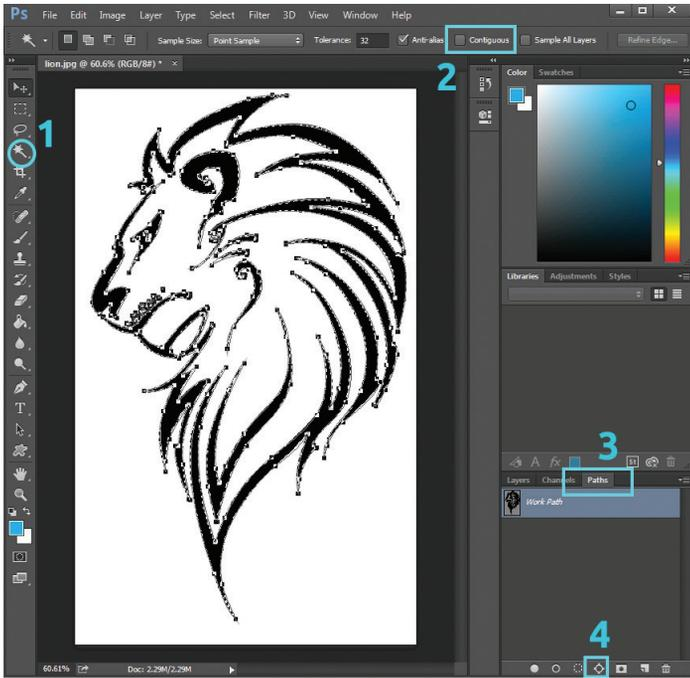

Figure 2
First, locate (or create) an image similar to the one in Figure 2. Open the file with Adobe Photoshop. Refer to Figure 2 where I marked the following steps in numerical order. Using the magic wand tool (1) with the contiguous option unchecked (2), click a point on the image that makes up the shape you want to import into 3ds Max. Once the shape is selected, navigate to the Paths tab (3) and select the Make Work Path from Selection option (4). Next, export the path to an Adobe Illustrator format using the File Menu -> Export -> Paths to Illustrator option.
First, select an image similar to the one displayed in Figure 2. I chose an image of a tiger for this exercise. Insert a plane with length and width segments set to one. Next, apply the Subdivide modifier and navigate to its parameters. Since we are trying to engrave a fairly detailed image into our object we need to adjust the size of the subdivision until we have plenty of triangles to form our shape.